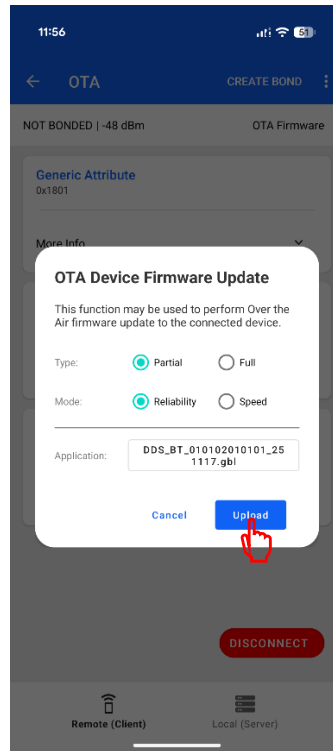

Fig. 9.6 Firmware upload
7. Select the firmware file and click **“Upload”** (Fig. 9.6).